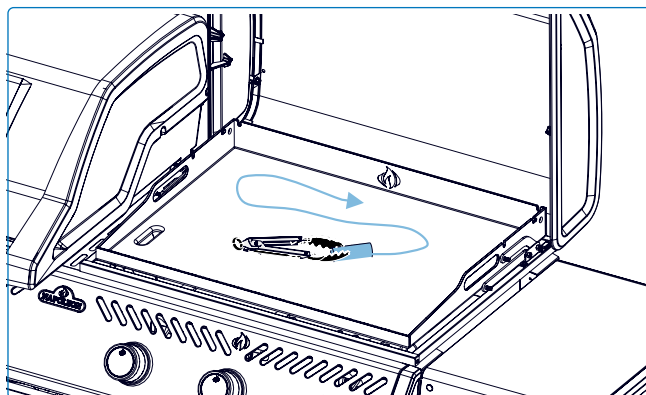

Fig. 12
6. Using heat-resistant gloves and long-handled tongs with a paper towel, spread the oil thinly and evenly across the entire surface **(Fig. 12).**